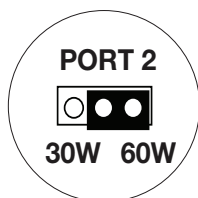

Fig. 2
2. Port Configurations (*Fig. 2, pg. 4; Fig. 5a, pg. 9*):